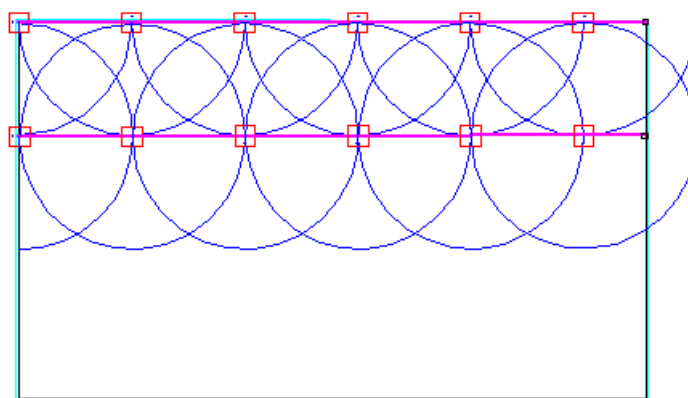

Figure 4-13
7. Starting from the left-hand side, draw another line so that the pipe will touch the extents of the wetted radii from the previous line of outlets as in **Figure 4-13**.